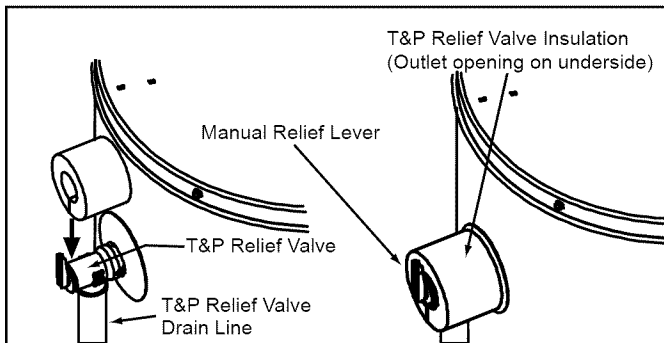

Figure 24.
Locate the temperature and pressure relief valve on the water heater (also known as a T&P relief valve). See Figure 24.
2. Spread the slit open and fit the insulation over the T&P relief valve. See Figure 24. Apply gentle pressure to the insulation to ensure that it is fully seated on the T&P Relief Valve. Once seated, secure the insulation with duct tape, electrical tape, or equivalent. **IMPORTANT:** The insulation and tape must not block the discharge opening or hinder access to the manual relief lever (Figure 24). Ensure a discharge pipe is installed into the T&P valve discharge opening per the instructions in this manual.